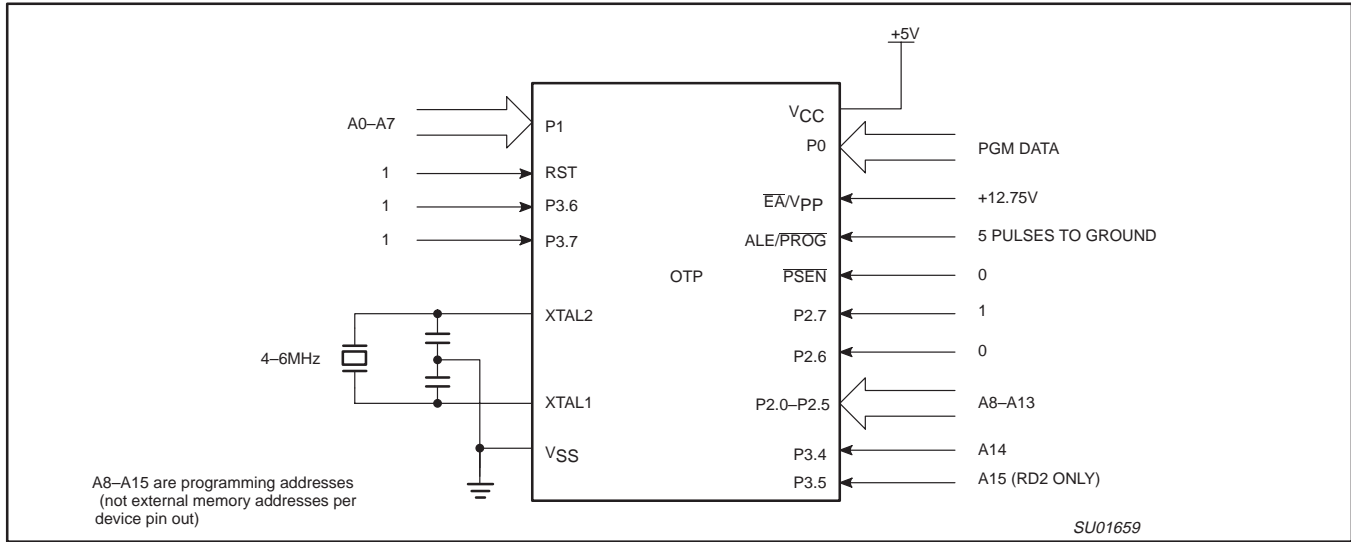
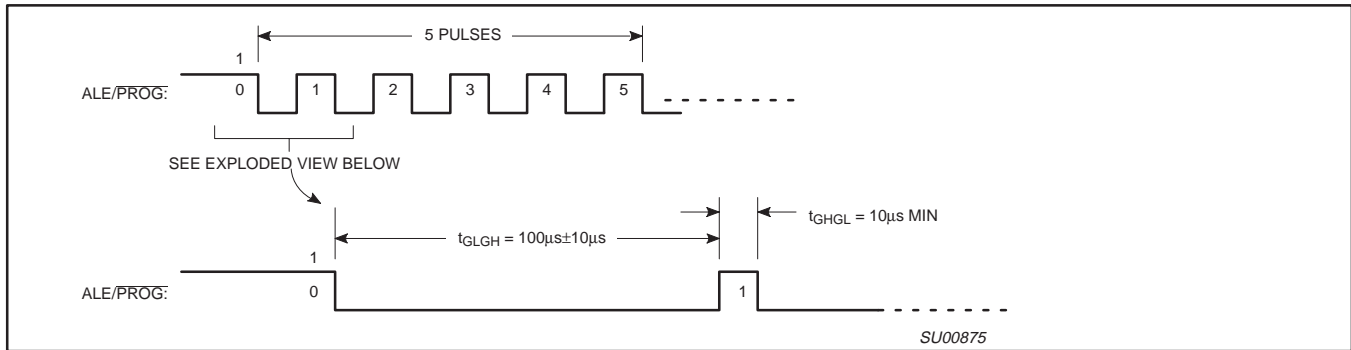
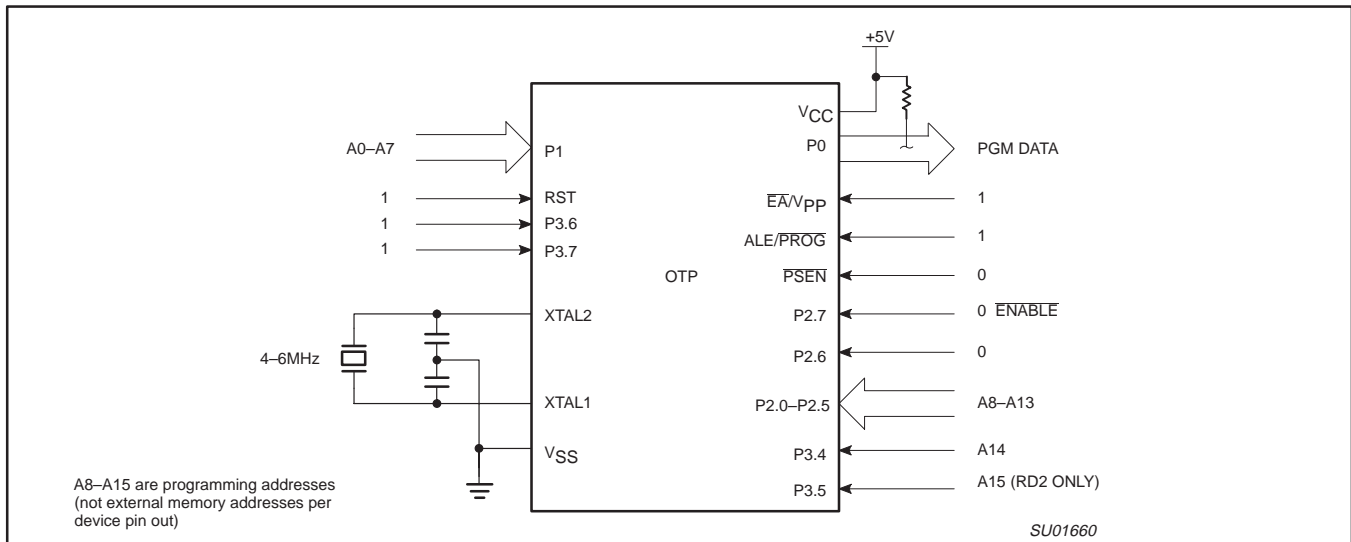

Figure 64. Programming Configuration
Figure 65. PROG Waveform
Figure 66. Program Verification
Table 17 shows the logic levels for reading the signature byte, and for programming the program memory, the encryption table, and the security bits. The circuit configuration and waveforms for quick-pulse programming are shown in Figures 64 and 65. Figure 66 shows the circuit configuration for normal program memory verification.
The setup for microcontroller quick-pulse programming is shown in Figure 64. Note that the device is running with a 4 to 6MHz oscillator. The reason the oscillator needs to be running is that the device is executing internal address and program data transfers.
The address of the EPROM location to be programmed is applied to ports 1 and 2, as shown in Figure 64. The code byte to be programmed into that location is applied to port 0. RST, $\overline{\text{PSEN}}$ and pins of ports 2 and 3 specified in Table 17 are held at the 'Program Code Data' levels indicated in Table 17. The ALE/PROG is pulsed LOW 5 times as shown in Figure 65.
If security bits 2 and 3 have not been programmed, the on-chip program memory can be read out for program verification. The address of the program memory locations to be read is applied to ports 1 and 2 as shown in Figure 66. The other pins are held at the 'Verify Code Data' levels indicated in Table 17. The contents of the address location will be emitted on port 0. External pull-ups are required on port 0 for this operation.
- * FOR PROGRAMMING CONFIGURATION SEE FIGURE 64.
FOR VERIFICATION CONDITIONS SEE FIGURE 66.